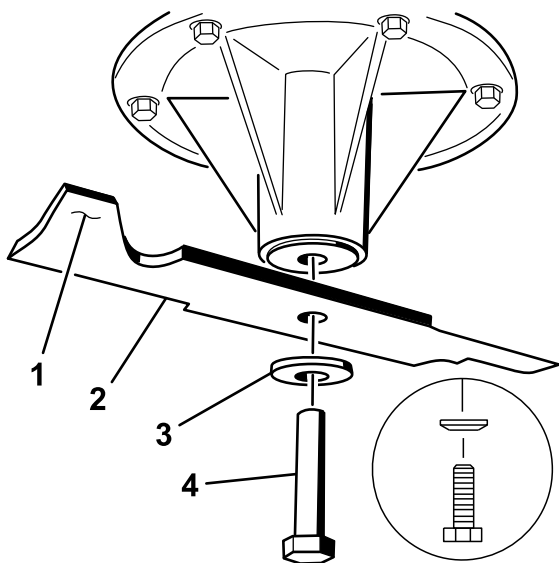

Figure 72
2. Install the blade onto the spindle shaft (Figure 72).
3. Install the curved washer and blade bolt (Figure 72).
Note: The curved washer cone must be installed toward the bolt head (Figure 72).